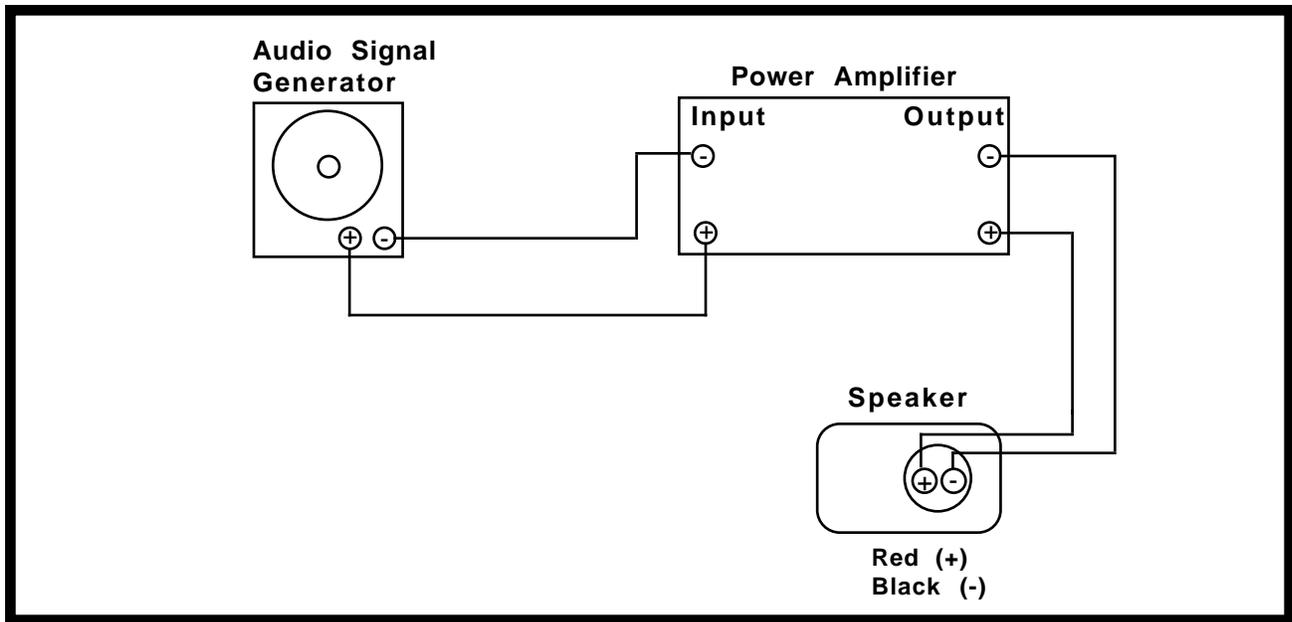

Figure 1. Test Connections 151™ Speaker
Polarities are not marked on the input terminals of the 151™ speaker. The red terminal is the positive (+) terminal and the black terminal is the negative (-) terminal. See **Figure 1**.
A. Connect a sine wave oscillator to a power amplifier. Adjust the frequency of the oscillator to **10 Hz** and the amplifier output to **6 Vrms**. Connect the amplifier output to the input terminals of the 151 speaker (see **Figure 1**). No extraneous noises such as rubbing, scraping or ticking should be heard.